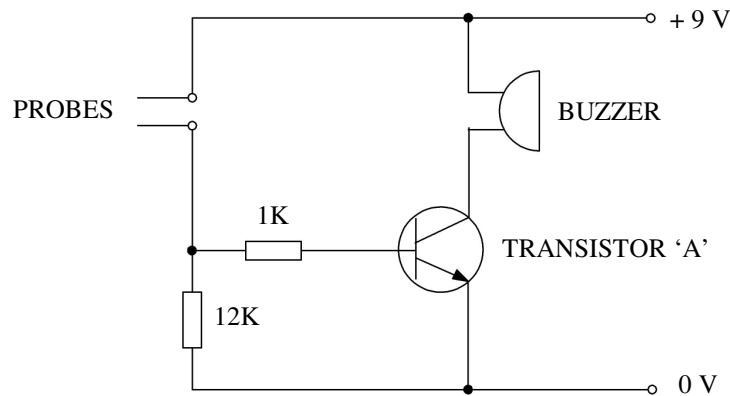

Figure 1(a)
1. (a) Figure 1(a) shows a circuit diagram.